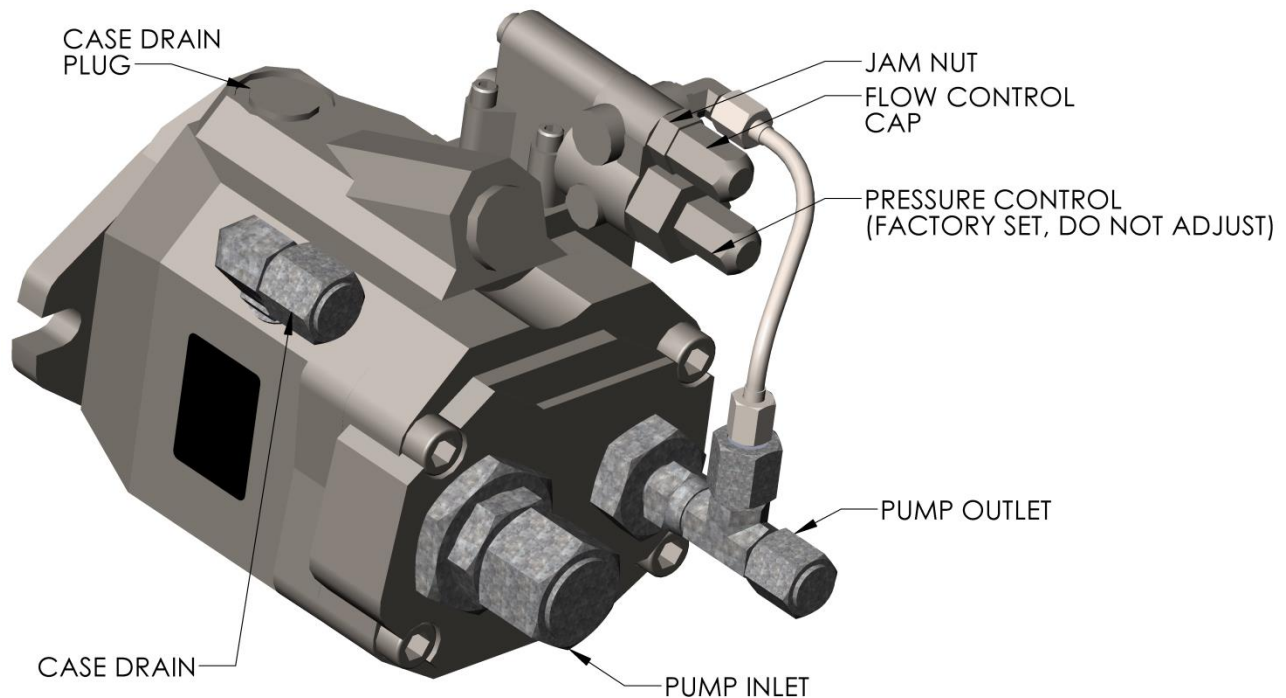

Figure 33 – Pump Assembly
- a. Loosen and remove flow control cap. Reference Figure 33.